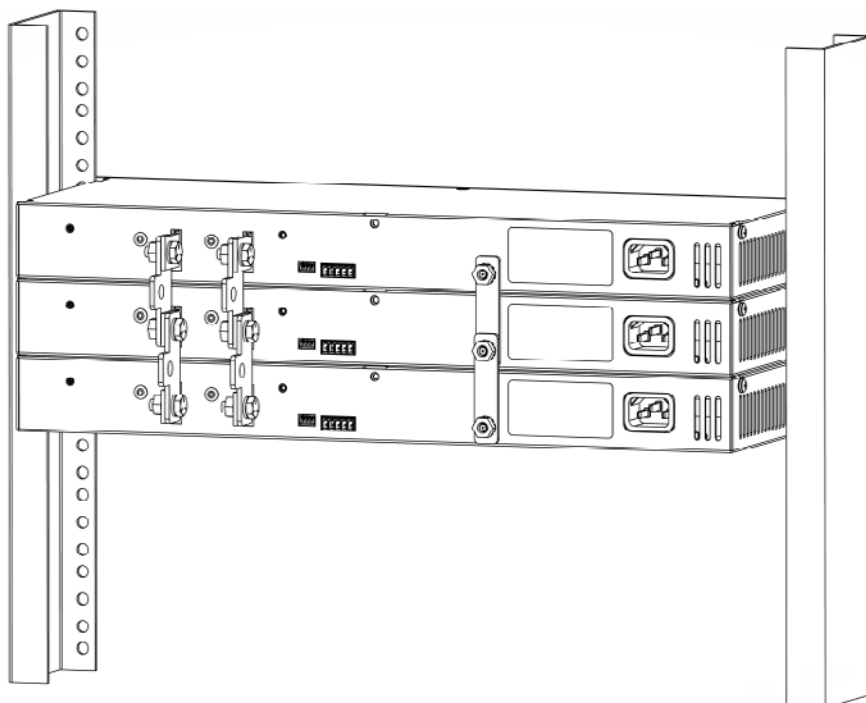

Figure 5. Pro Series Connected in Parallel
1. Connect the positive terminals (labelled "POS") of each unit together at a common positive load point using the Parallel Bus Bars (ICT-PAR) as shown in Figure 5. See Section 2.10.